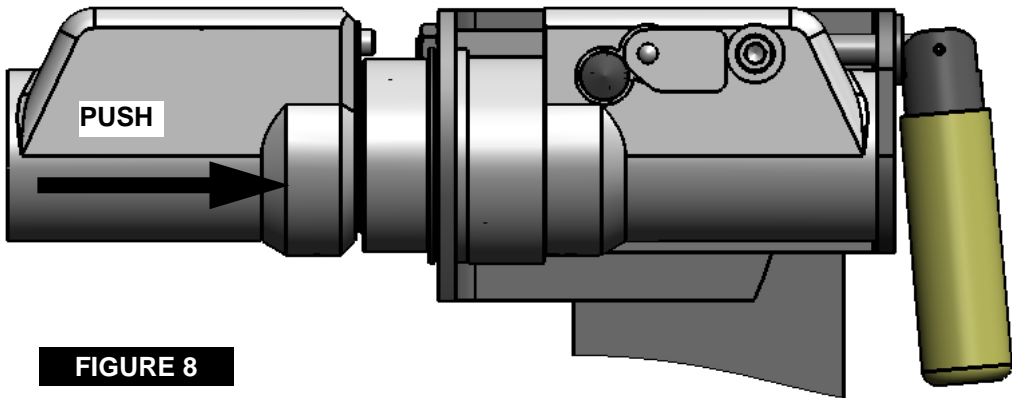

FIGURE 8
3. Actuate cam action by pivoting the bracket handle 80-90 degrees as shown in figure 8. Hold in this position and push the male half in place, which will allow the Male Half to move to its operating position.